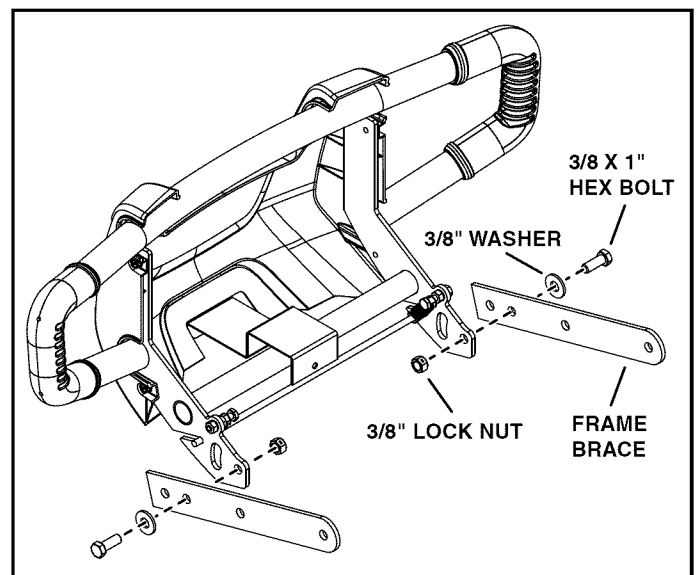

FIGURE 3
- Push the front of the latch down past plastic shroud of bumper. Latch will be under the shroud and should appear as shown in figure 3 when assembled correctly.
### STEP 3: (SEE FIGURE 3)